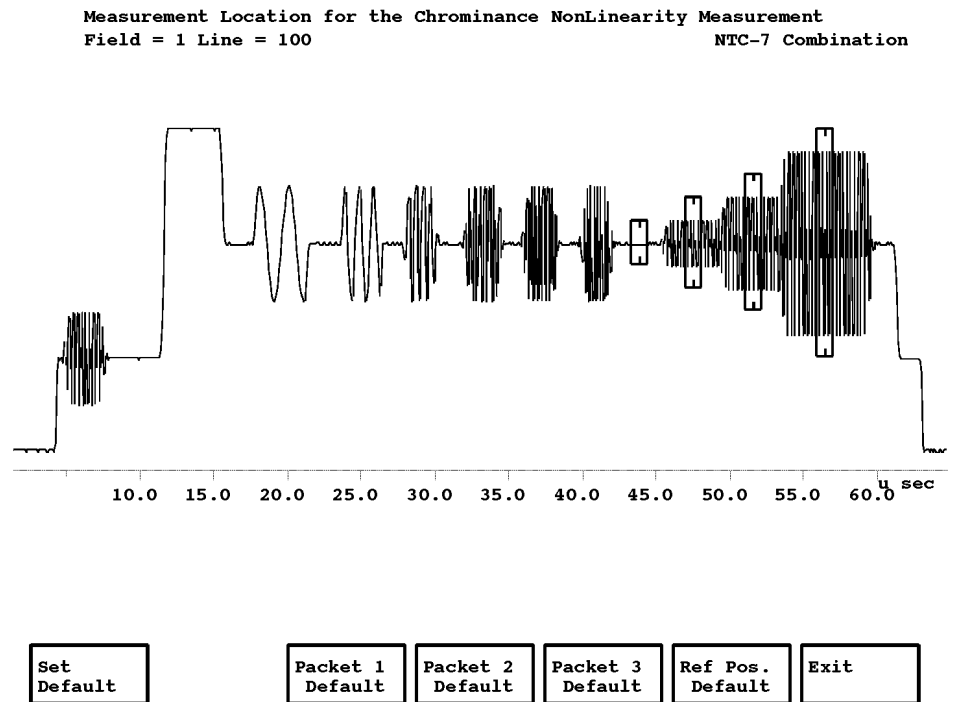

Figure 2-18: Chrominance NonLinearity Special Position display
**Use (n) Reference** Use (1) Reference/Use (2) Reference selects the stored reference to which measured values are compared. If no reference value has been stored, touching either soft key displays a message that the reference is not defined.
**Special Position** Special Position displays the Special Position submenu and a special waveform display used to set the location on the waveform where the measurement is made. Figure 2-18 shows the Chrominance NonLinearity Special Position display and submenu.